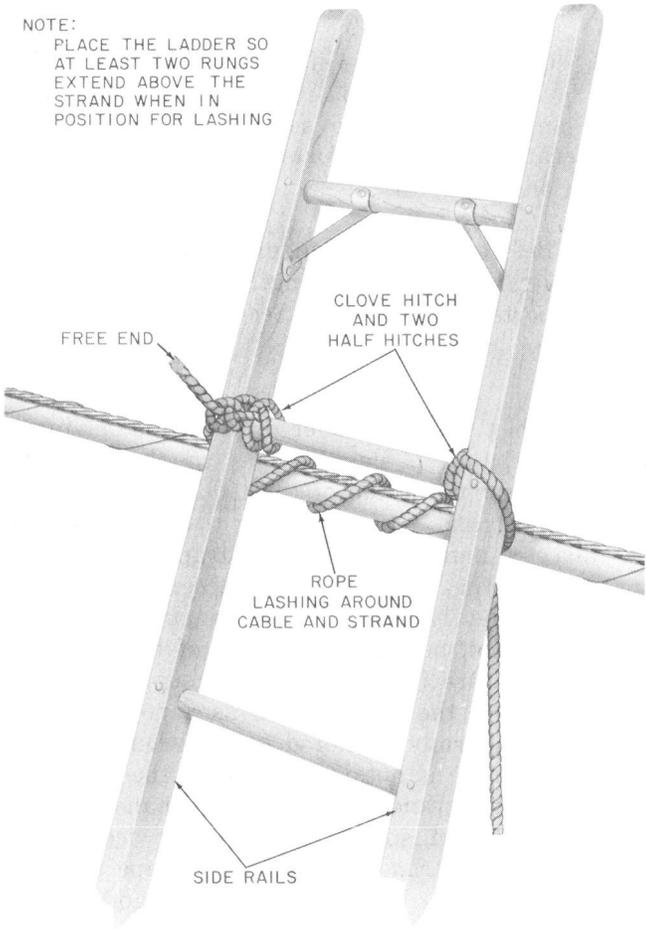

Fig. 35—Lashing Ladder to Strand
9.08 When a ladder is placed against the strand and heavy work such as pulling or lifting is to be done, lash the ladder to the strand with a short length of rope, as shown in Fig. 35. Where the cable is supported in rings, pass the lashing rope around the strand only; where the cable is lashed, pass the lashing rope around the strand and cable. **Do not move the base of the ladder after the upper end has been secured to the strand.**